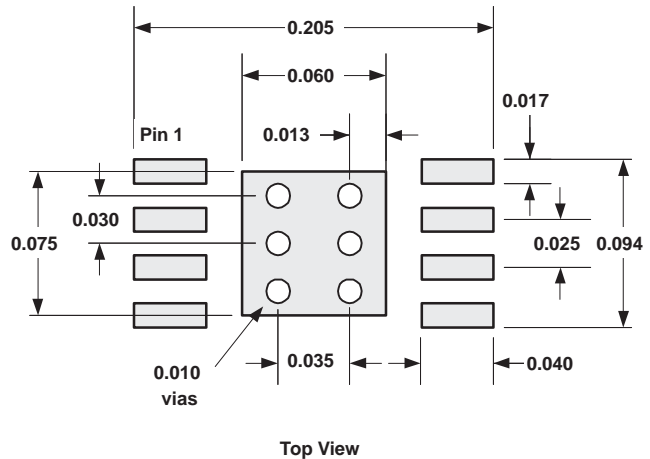

Figure 64. DGN PowerPAD PCB Etch and Via Pattern
1. Prepare the PCB with a top-side etch pattern as shown in Figure 64. There should be etch for the leads as well as etch for the thermal pad.